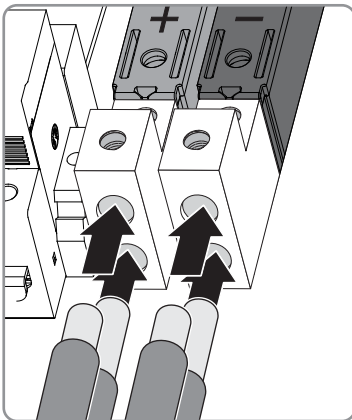

Figure 2.26 Connect to PV input
4. Connect the PV cables to the terminal blocks (lug combiner). Ensure correct polarity (see figure 2.26).